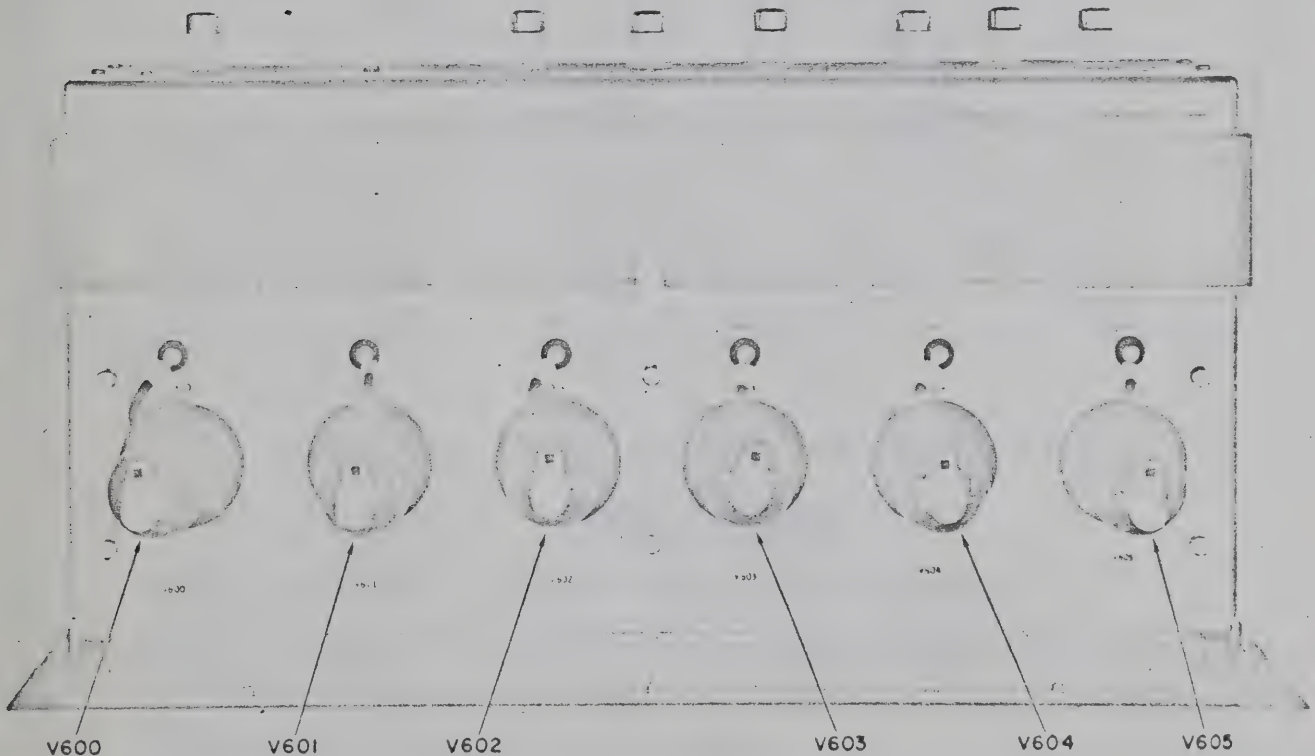

Figure 4-9. High Voltage Rectifier Drawer 600, Top View.
- b. Insert six high voltage rectifier tubes V600 through V605 (contained in crate 1), into tube sockets in high voltage drawer (see figure 4-9).